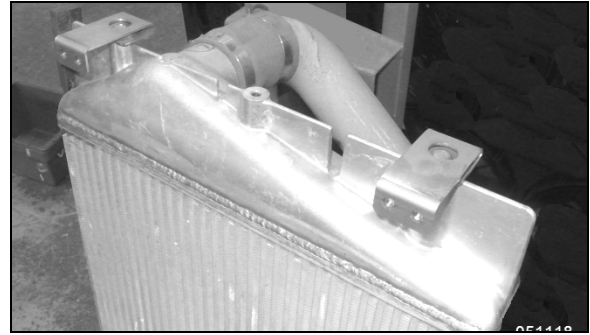

FIGURE 51: CAC UPPER BRACKETS & PIPE
12. If a new CAC is to be installed, transfer the upper CAC pipe and upper brackets to the new unit. Torque upper brackets with plastic bushings & washers to specified torque (Figure 51). Also reinstall the lower CAC pipe if it was previously removed with the CAC unit.